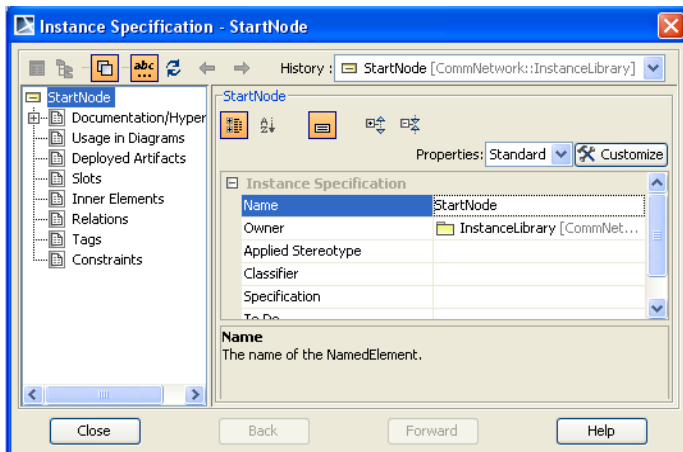

Figure 5.10a Instance Specification window
- iii. Double-click on **StartNode** to open Instance Specification window (Figure 5.10a).
- vi. Click Slots in Instance Specification window (Figure 5.10a) and double-click on each of the value properties to activate them. For the **StartNode** instance, we